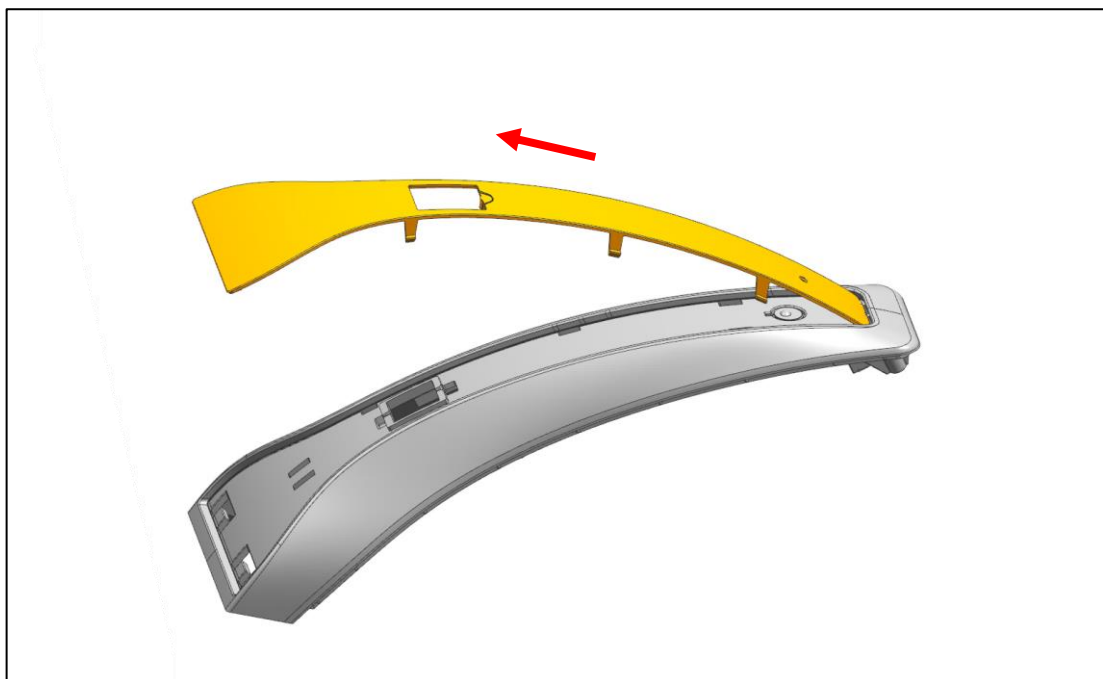

Fig. 18
d) Remove the cover from the upper housing (Fig. 18).